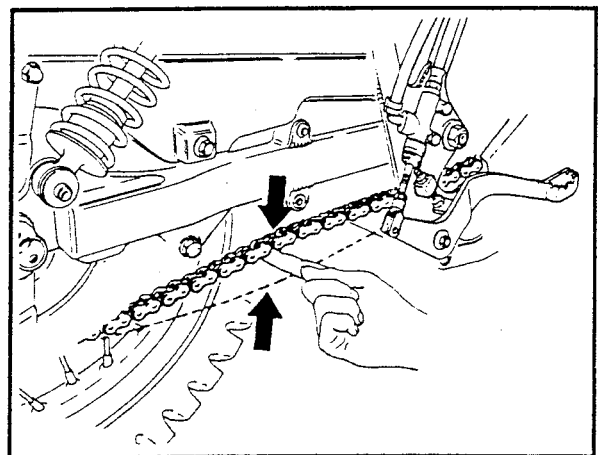

Figure 2-119. Chain Free Play
5. See Figure 2-119. Adjust rear wheel position with snail cams to give chain free play of 55-65 mm (2.2 - 2.6 in) when measured at the center of its run. 10-15 mm (0.4 - 0.6 in) freeplay must be evident when the weight of machine is on the wheels.